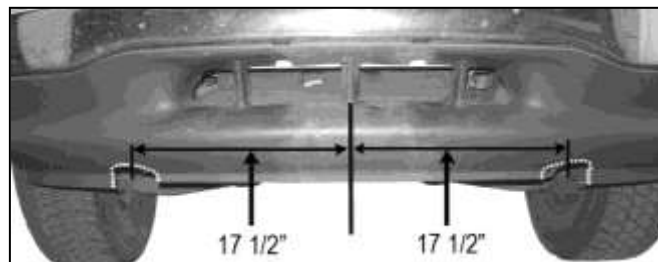

Fig 5
- c. Cut a 3" diameter round hole out of each marked location, 2" up from the bottom of the bumper. Trim the opening into a "U" shape, (**Figure 5**). **IMPORTANT!** Use the Bull Bar to determine exact area to be cut from air dam. Only remove material required to clear the Bull Bar. **NOTE:** It may be easier to remove the lower bumper cover to cut for clearance once properly marked.